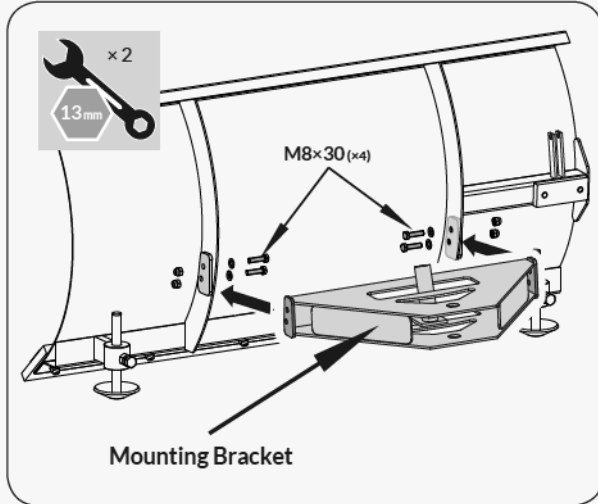

Figure 3a
1. Mount the mounting bracket to the blade using M8×30 hex bolts, washers and nuts. (See **Figure 3a**)